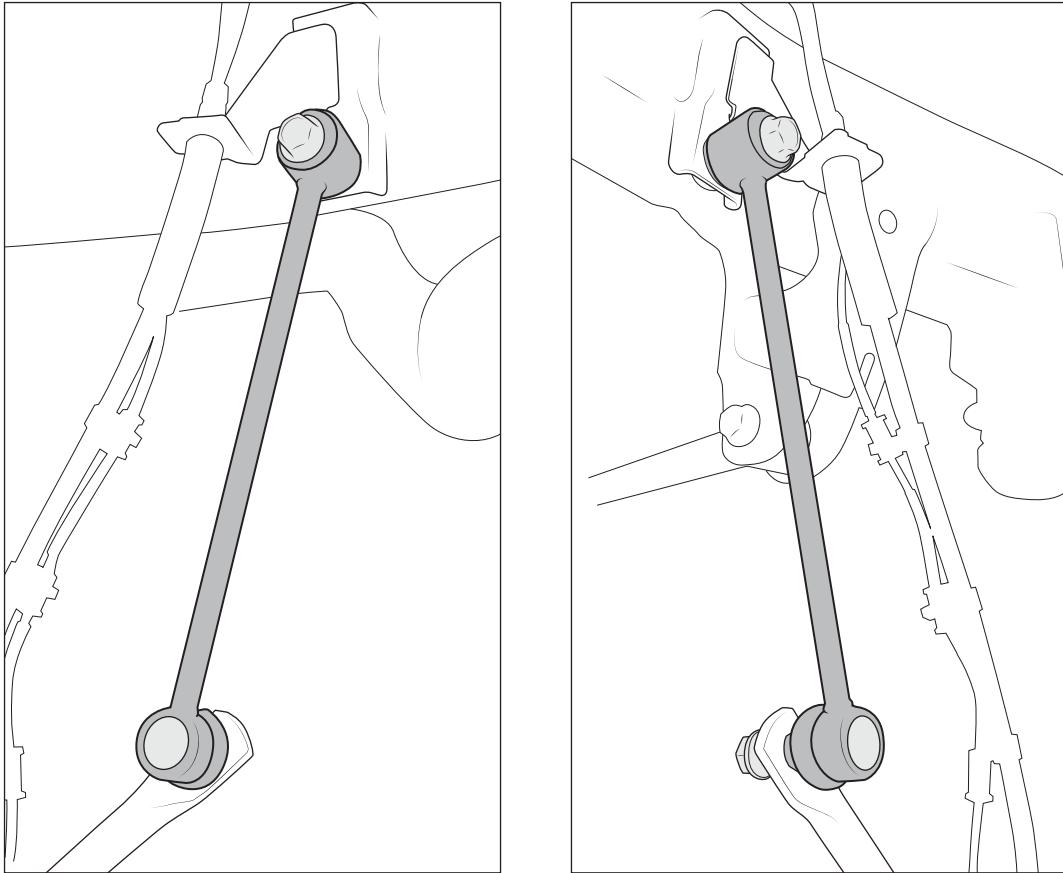

Figure 9
12. Install new AEV endlinks in factory orientation (fig. 9). Reattach ABS lines (step 5), and install wheels using factory hardware.